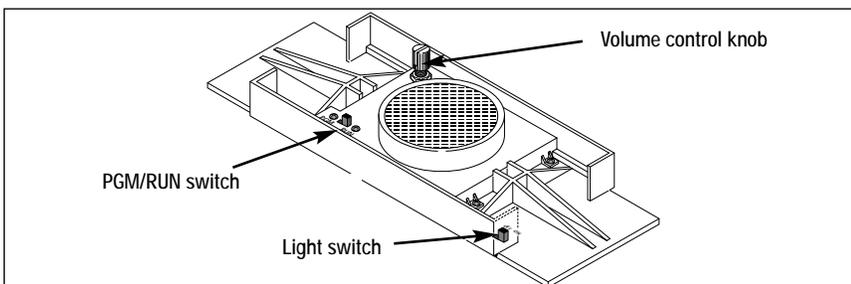

Figure 4. Switch and volume locations
Note! All Lionel command-equipped products come factory-programmed with an ID# of 1. (To change the ID#, see page 12.) Even though your StationSounds Car is not an “engine,” it is still addressed using **ENG** on the CAB-1 Remote Controller. Use the volume control on the bottom of the car (see Figure 4 on page 12) to set the volume to your desired level.
Set the StationSounds Car PGM/RUN switch to PGM. Refer to Figure 4 for the location of that switch. Plug in your Command Base, then place the StationSounds Car on the track. Set your PowerMasters to CMD or set your traditional power supplies to FULL (no more than 19 volts). Using your CAB-1 Remote Controller, press **ENG**, the StationSounds Car ID# (that you select), then press the **SET** button located under your CAB-1 Remote Controller's removable panel. Set the control switch to RUN. Your StationSounds Car is ready for operation with its all-new ID#. The example on this page illustrates this process.
STEP 1: Move the PGM/RUN switch on the bottom of the StationSounds Car from RUN to PGM. Refer to Figure 4 on page 12 for the switch location.